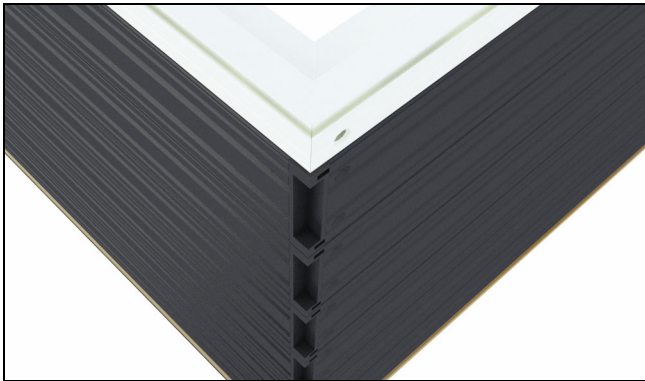

Figure 16
2. Align side jamb to head jamb, using frame cladding corner key as reference. Slide until miter is aligned. See figure 16.